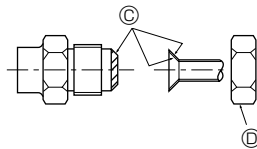

Fig. 4-1
### 4.2. Connecting pipes (Fig. 4-1)
④ (Fig. 4-1)
② (Fig. 4-1)